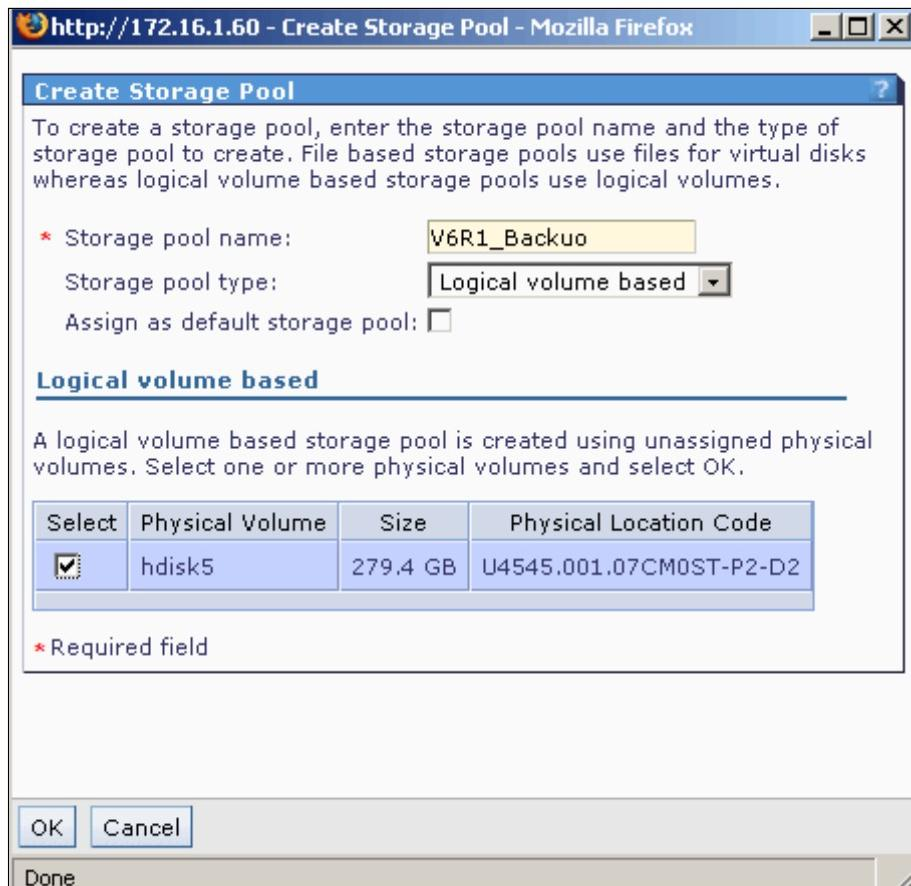

Figure 7-69 IVM Create Storage Pool
2. Select **View/Modify Virtual Storage**, the **Storage Pool** tab, and then click **Create Storage Pool**. The window displayed in Figure 7-69 is shown.